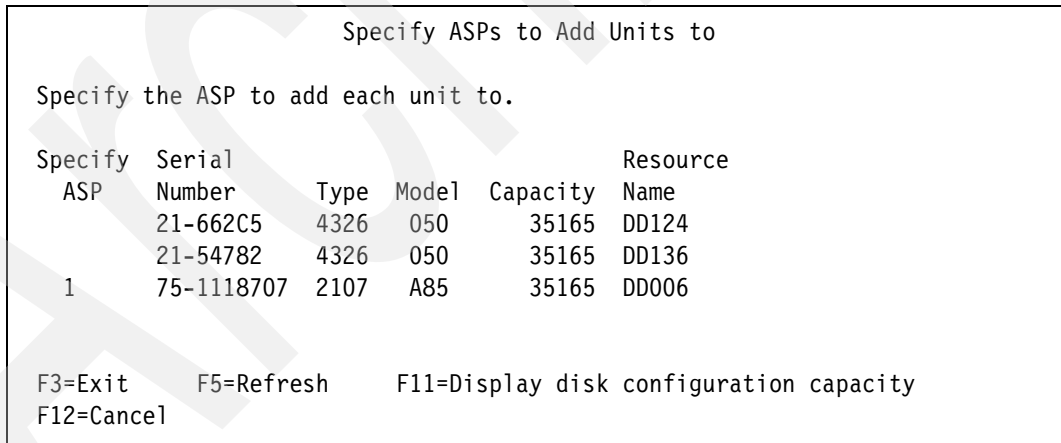

Figure 17-4 Specify ASPs to Add Units
- Figure 17-4 shows the Specify ASPs to Add Units to screen. Specify the ASP number to the left of the desired units. Here we have specified ASP1, the System ASP. Press Enter.